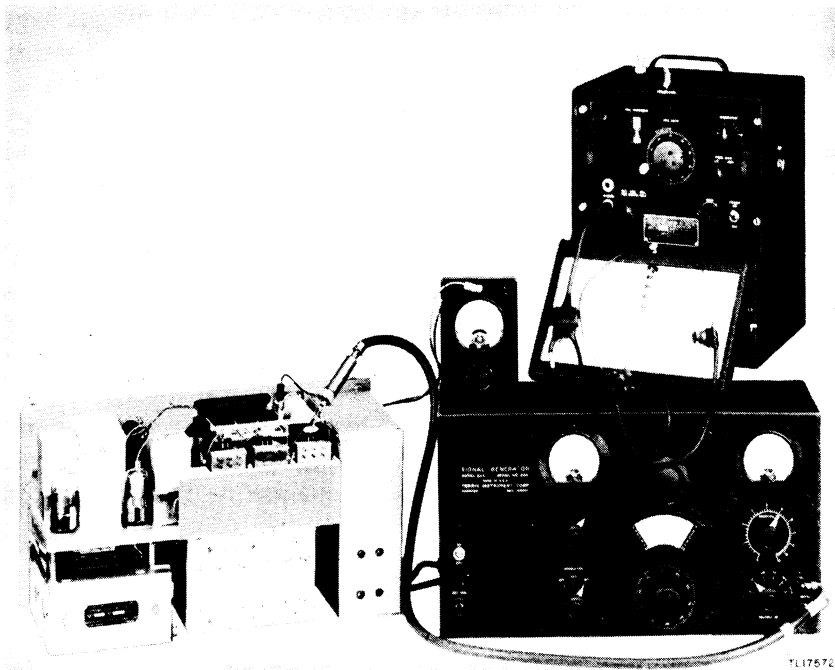

Figure 76. Typical test set-up for receiver r-f alignment.
b. **PREPARATION.** Set up the receiver and alignment equipment as shown in figure 76. Calibrate the signal generator for a 2,900-kc signal (h-f model) or for a 255-kc signal (m-f model) as described in paragraph 84. Set the receiver BAND CHANGE switch to Band A, the OFF-M.V.C.-A.V.C. switch to M.V.C., the C.W.-OSC. switch to OFF, the CRYSTAL PHASING control to OUT (h-f model), and the VOL control to maximum. Set the receiver dial to 2,900 kc (h-f model) or to 255 kc (m-f model). Remove the shield plate covering the r-f amplifier and mixer adjustment screws on the rear of the chassis, and loosen the adjustment screw locknuts.